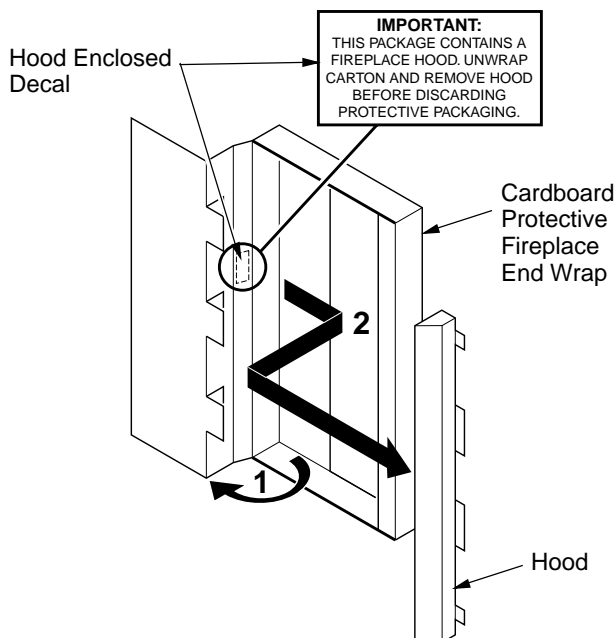

Figure 2 - Removing Fireplace Hood
1. Remove log box and fireplace from carton. The hood is not attached. **IMPORTANT:** The fireplace hood is inside the cardboard protective end wrap on the left side of fireplace (as viewed from front). A decal is on the outside of the cardboard end wrap stating hood is enclosed (see Figure 2).
2. Remove hood from cardboard protective end wrap as shown in Figure 2.